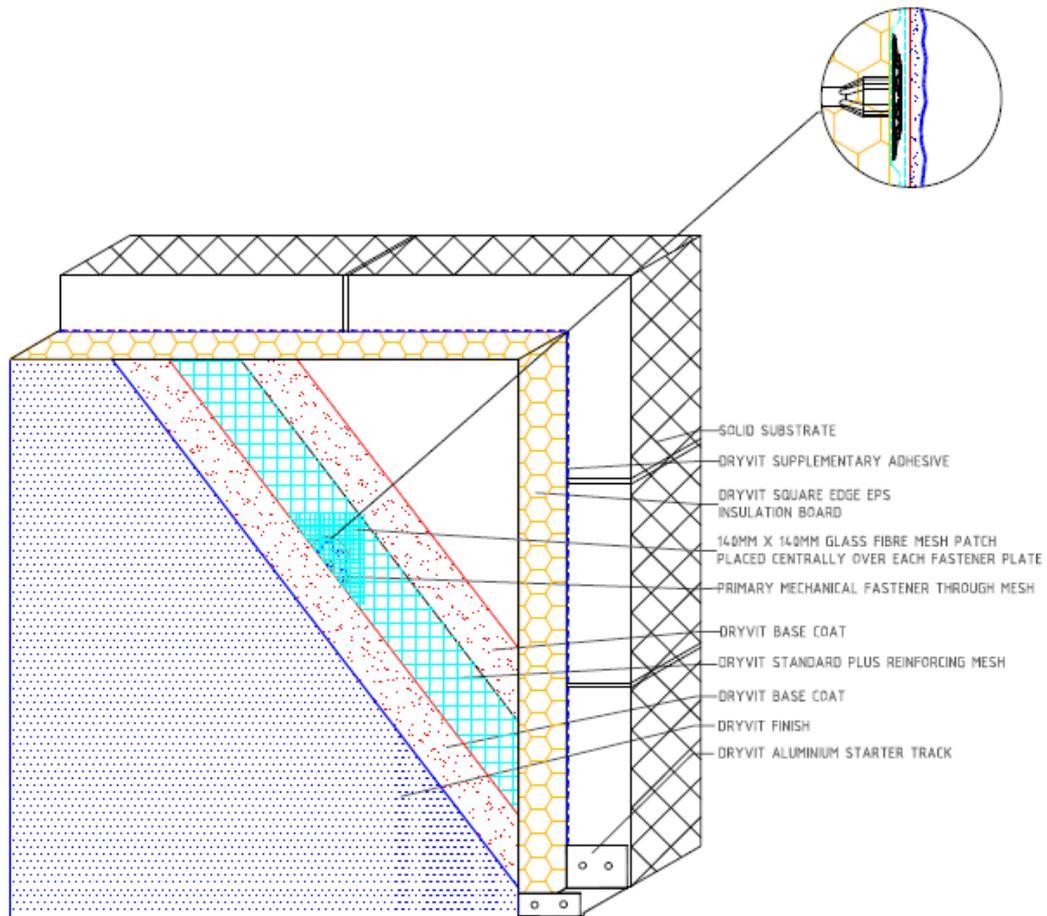

Figure 3a. Drysulation primary mechanical fix with supplementary adhesive with fixings through the mesh
- d. Centrally place a pre-cut 140 mm square of Detail mesh over each fixing head and neatly embed it in the surrounding basecoat mixture ensuring it is fully coated in basecoat. Using a small damp brush, smooth out irregularities and feather the edge of the base coat mixture. The objective is to fill the holes and pin recess in the plate shaped head of the faster and to ensure all mesh is fully coated in base coat to make it as unobtrusive as possible. Refer to Drysulation System 60 Year Installation Details (see Figure 3a).
- g. Apply a further 1 to 1.5 mm layer of base coat over the first coat to fully cover the reinforcing mesh (see Figure 3a). The result should be such that the reinforcing mesh is approximately centred within the base coat thickness. Do not allow the first pass to completely dry prior to the application of the second pass otherwise an excessive amount of base coat mixture will be necessary to fully coat the surface.